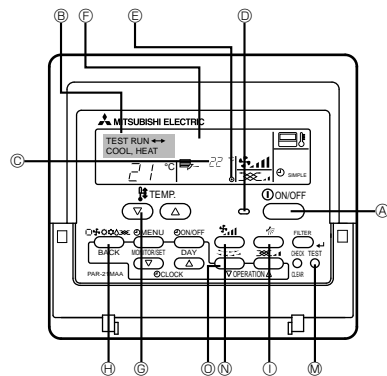

Fig. 7-1
7. Test run (Fig. 7-1)
Using wired remote controller (Fig. 7-1)